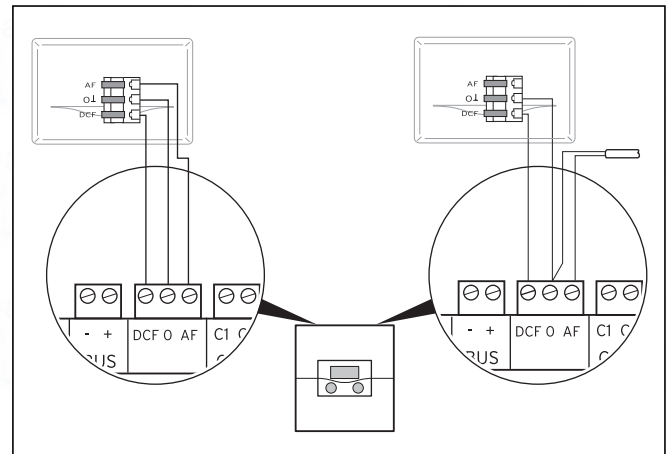

Abb. 5.11 Connecting the DCF receiver
- Wire the DCF receiver as shown in Fig. 5.11.